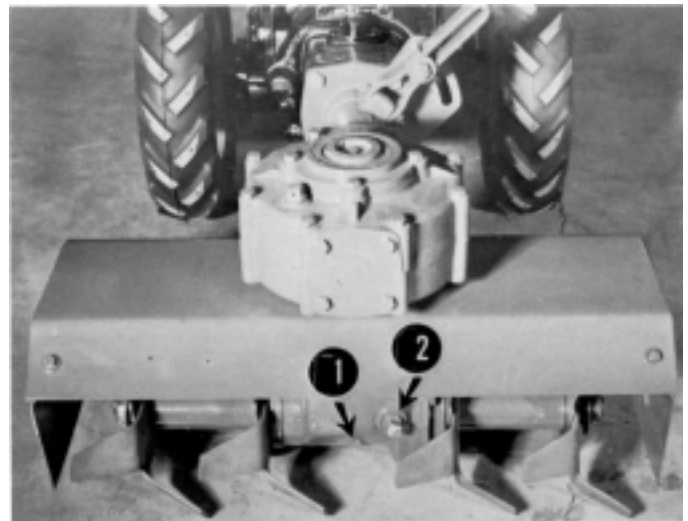

Figure 27
5. Rotate the Cultivator to the position shown in Figure 27. In this position the Tines will cut the same direction (clockwise) as the forward movement of the tractor.
Check the Cultivator Drive Assembly oil level every eight hours of operation by removing the Oil Level Plug, (1 in Figure 27). If oil runs out of the Oil Level Hole, the oil level is all right; if not, oil must be added.
To add oil, remove the Oil Filler Plug, (2 in Figure 27), and pour through the Oil Filler Hole until oil begins to run out of the Oil Level Hole. Replace both Plugs when proper oil level is reached.